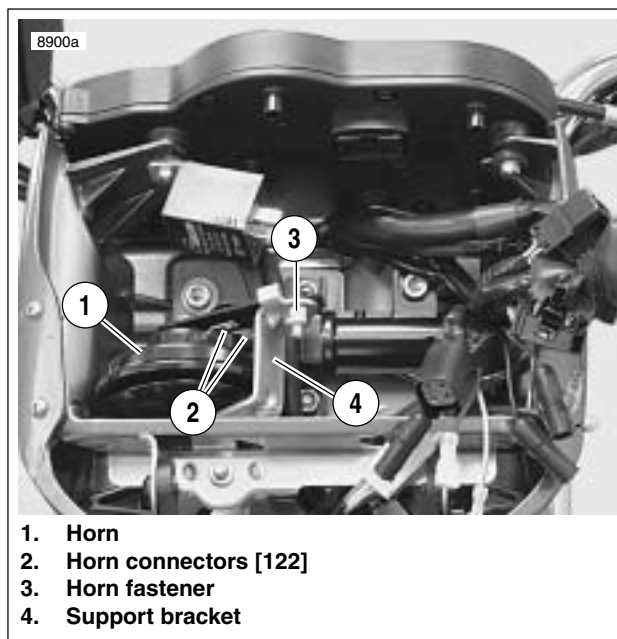
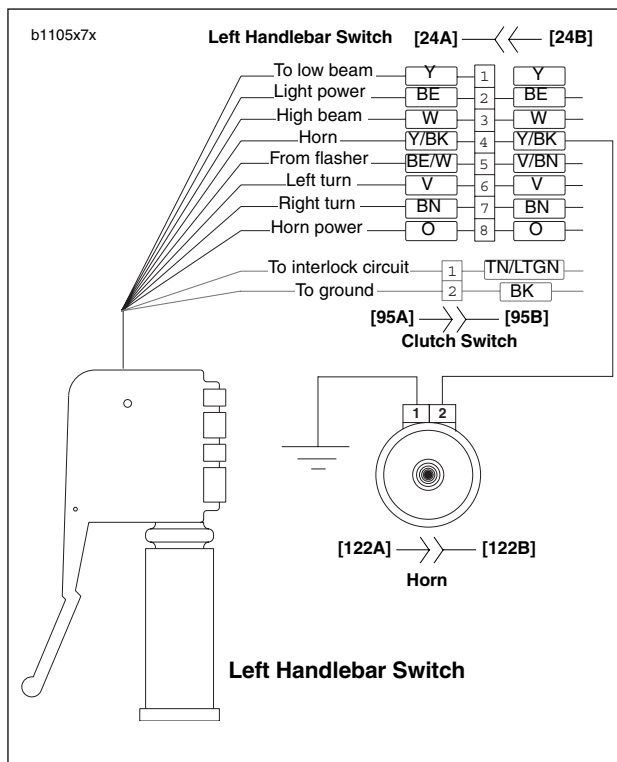

Figure 7-72. Horn Assembly
Figure 7-73. Horn Wiring
4. See Figure 7-72. Remove fastener (3).
5. Remove horn (1) from fairing support bracket (4).
6. See Figure 7-73. Detach Y/BK power wire and BK ground wire from terminal clips on horn.
1. See Figure 7-73. Connect Y/BK power wire and BK ground wire to terminal clips on horn.
2. See Figure 7-72. Attach horn (1) to fairing support bracket (4) using fastener (3). Tighten to 72-96 in-lbs (8.1-10.8 Nm).
- a. See Figure 7-73. Remove Y/BK power and BK ground wires from terminal clips.